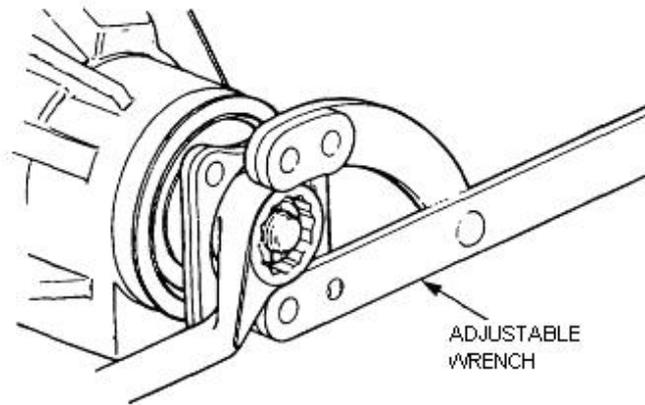

Figure 98 Differential Pinion Coupling Flange Removal
- e. Using the adjustable wrench (Table 3, Serial 4) to prevent the coupling flange rotating, remove the pinion locknut and washer (Figure 98). Discard the locknut.